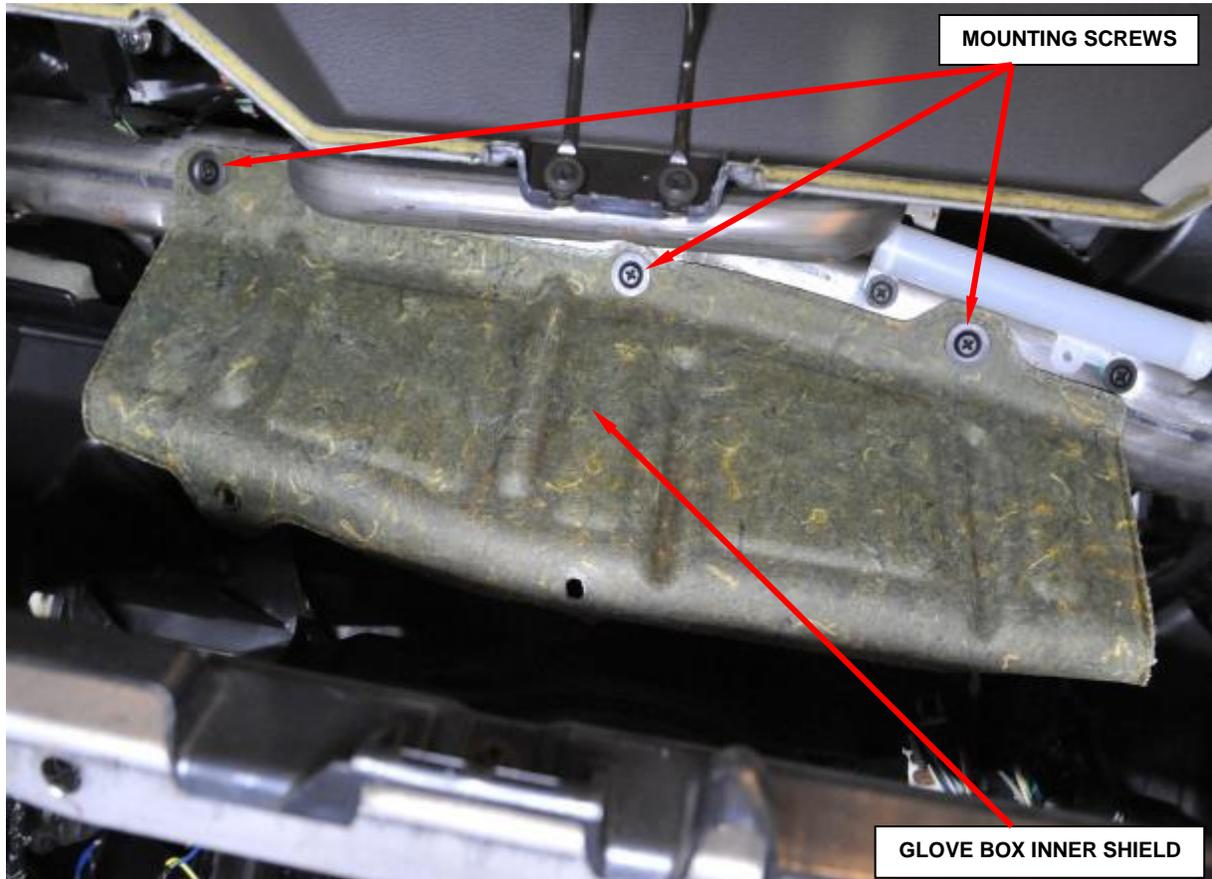

Figure 41 – Inner Glove Box Shield
3. Remove and save the three mounting screws to the inner glove box shield (Figure 41).
15. Install the inner glove box silencer shield using the three mounting screws (Figure 41).